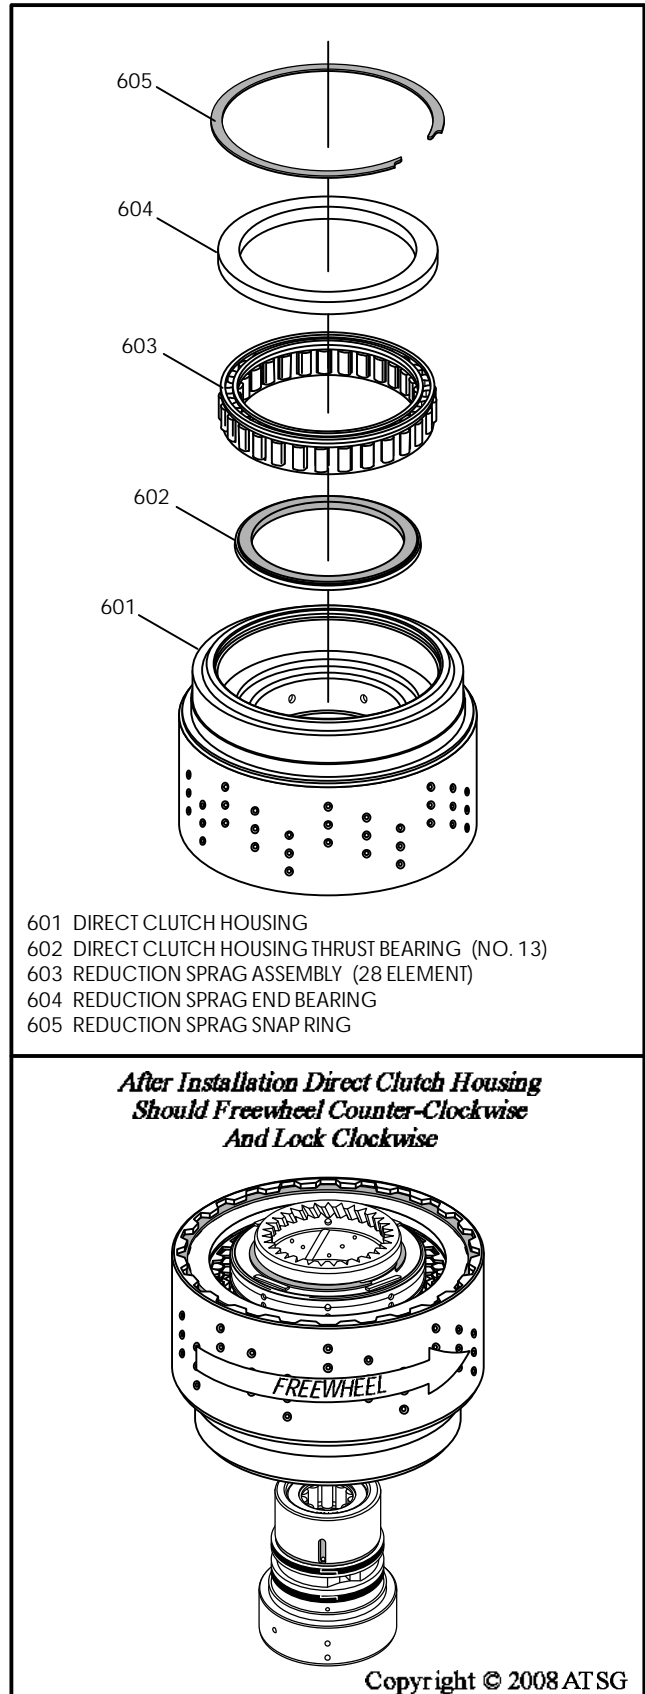

Figure 121
17. Turn the direct clutch housing over, as shown in Figure 121, and install the number 13 thrust bearing with the black side facing up.
18. Install the reduction sprag assembly into direct clutch housing, with the "lips" facing up, as shown in Figure 121.
19. Install the reduction sprag end bearing into the direct clutch housing, as shown in Figure 121.
20. Install the reduction sprag end bearing snap ring, as shown in Figure 121.
**Note: Check for the proper sprag rotation, as shown in Figure 121.**